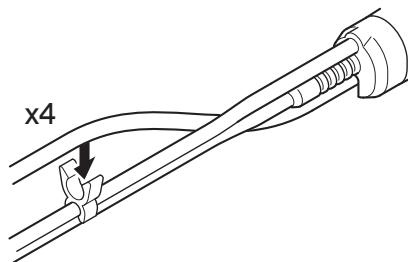

Figure 94 – Handpiece Cable Clips Installation
- Using the four handpiece cable clips, attach the handpiece cable to the tubing (Figure 94).